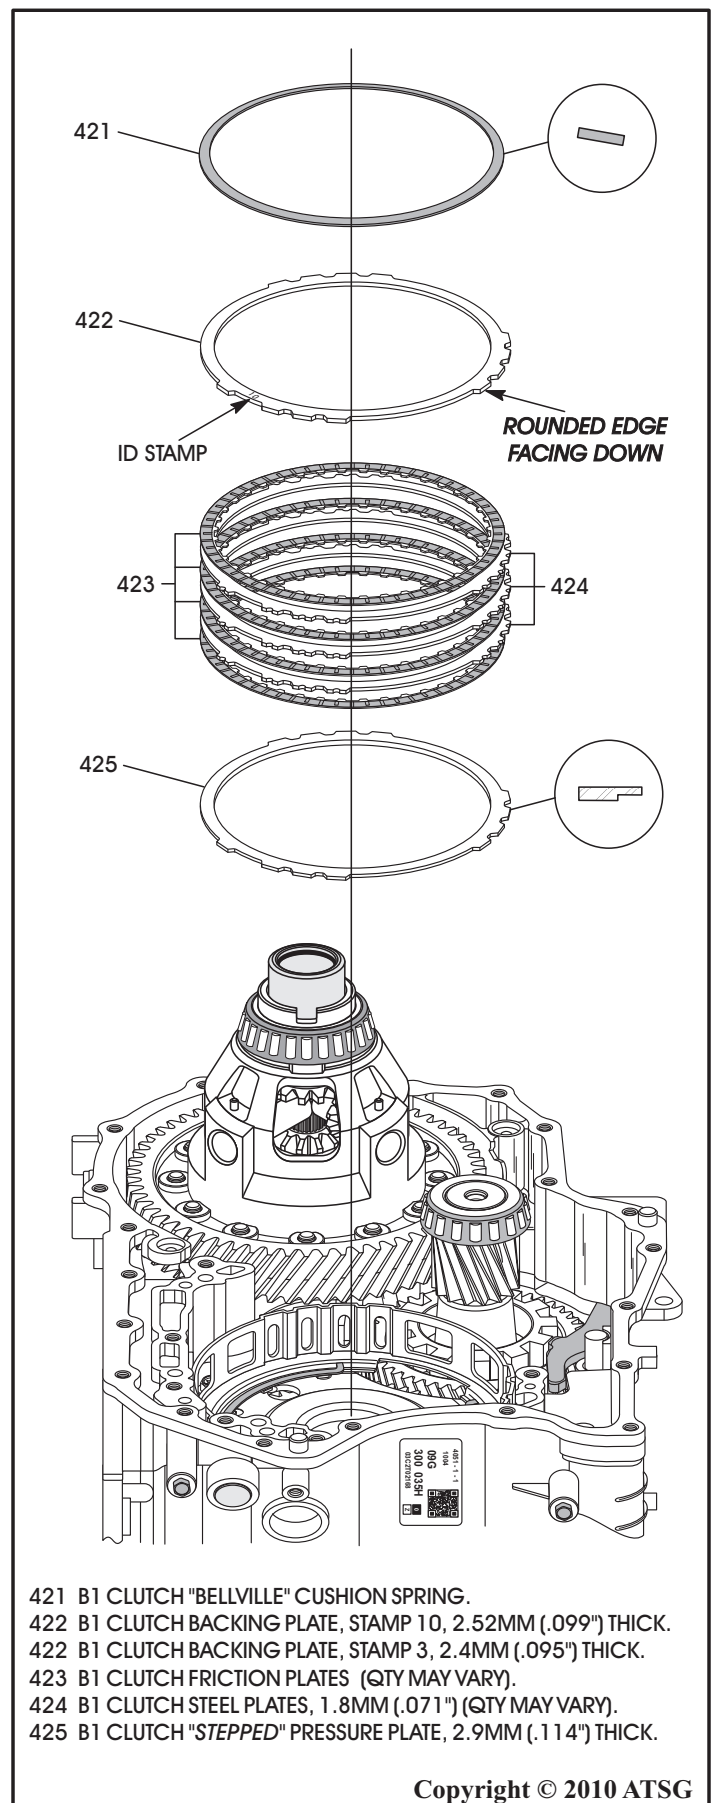

Figure 178
8. Install the B1 clutch "stepped" pressure plate, as shown in Figure 178, with "step" facing down.
9. Install B1 clutch pack beginning with a friction plate onto the pressure plate and alternating with a steel plate, as shown in Figure 178, until you have installed the proper quantity, as the quantity may vary.
30. Install the B1 clutch backing plate on top of the last friction, as shown in Figure 178, with the rounded edge facing the friction.
31. Install the B1 clutch "bellville" cushion plate in the direction shown in Figure 178.